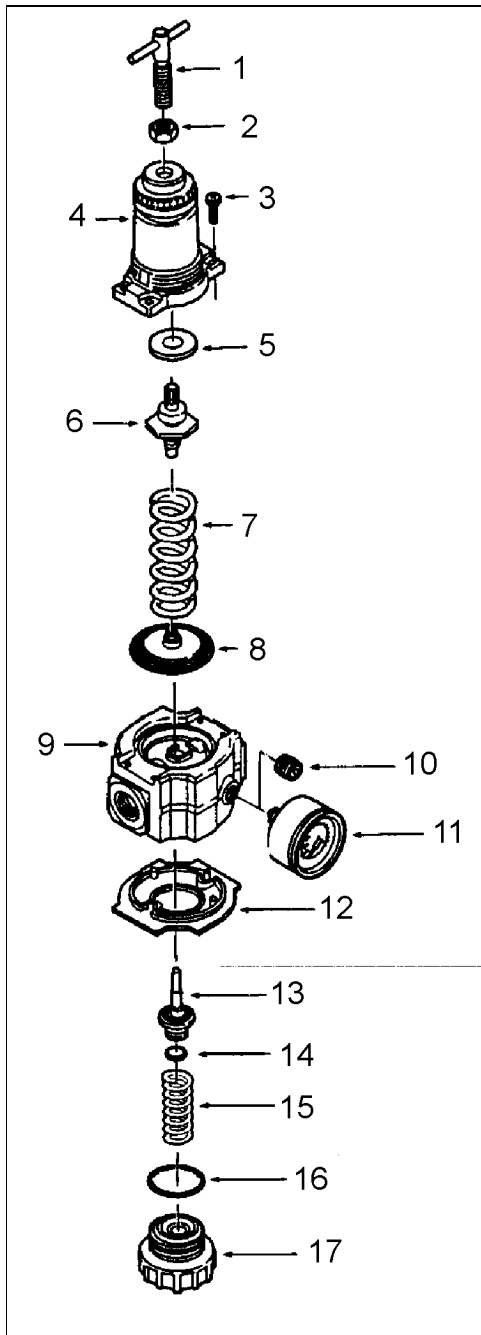

FIGURE 13: REGULATING VALVE 16035
5. Tighten jam nut (2, Fig. 13) to lock pressure setting.
1. Shut off inlet pressure and reduce pressure in inlet and outlet lines to zero. Turn regulator adjustment (1, Fig. 13) counterclockwise until all load is removed from regulating spring. Regulator can be disassembled without removal from air line.
1. Lubricate o-ring (14 and 16, Fig. 13), valve stem (13, Fig. 13), tip of adjusting screw (1, Fig. 13), and the outer circumference and both sides of the thrust washer (9, Fig. 13) with a light coat of good quality o-ring grease.